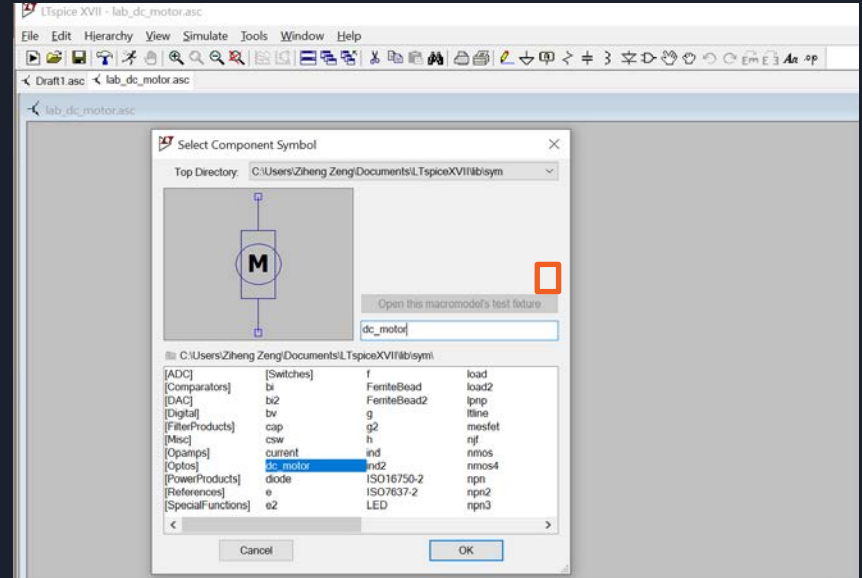

Figure 3.
- Then, press the component symbol  and then search for `dc_motor` in the search bar. You should see something similar to figure 3. Click ok to place the motor component on your schematic.